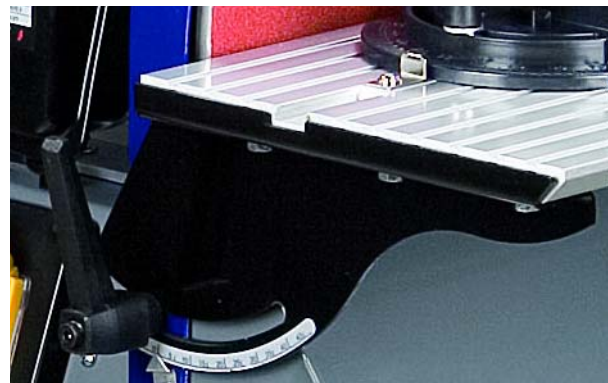

Fig. 19: Adjustment of the inclination angle
Step 1: Loose the clamp lever below work table (Fig. 19).